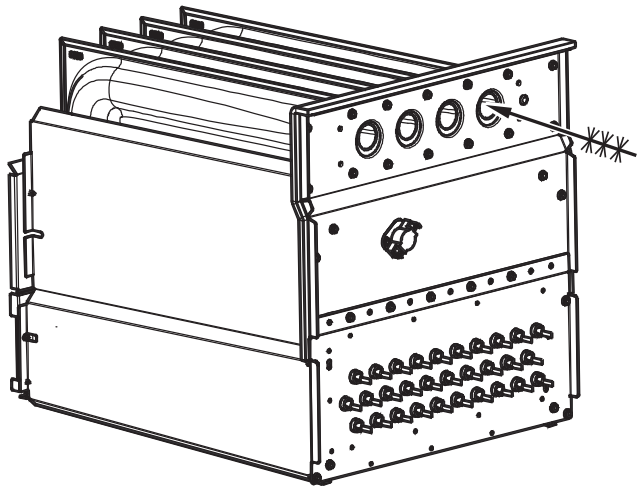

Fig. 65 – Cleaning Heat Exchanger Cell
7. Clean heat exchanger openings with a vacuum and a soft brush. See Fig. 65.